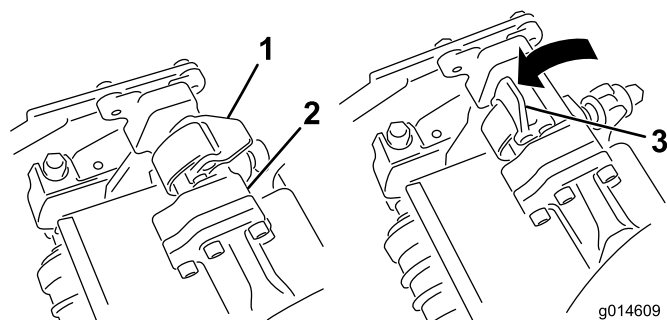
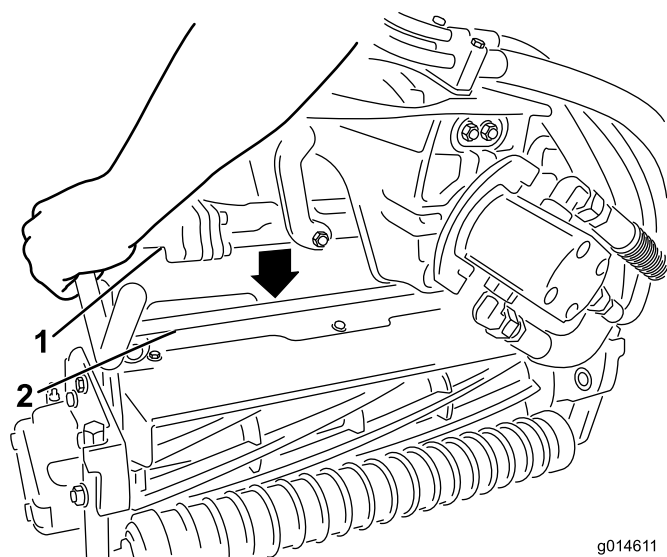

Figure 33
Figure 34
4. With the latches on the suspension-arm bar pointing up (i.e., open) (Figure 33), push the suspension arm down so that the bar fits over the bar across the top of the cutting unit (Figure 34).
5. Close the latches down and around the cutting-unit bar and lock them in place (Figure 33).
5. Open the latches on the suspension-arm bar of the cutting unit you are removing (Figure 33).